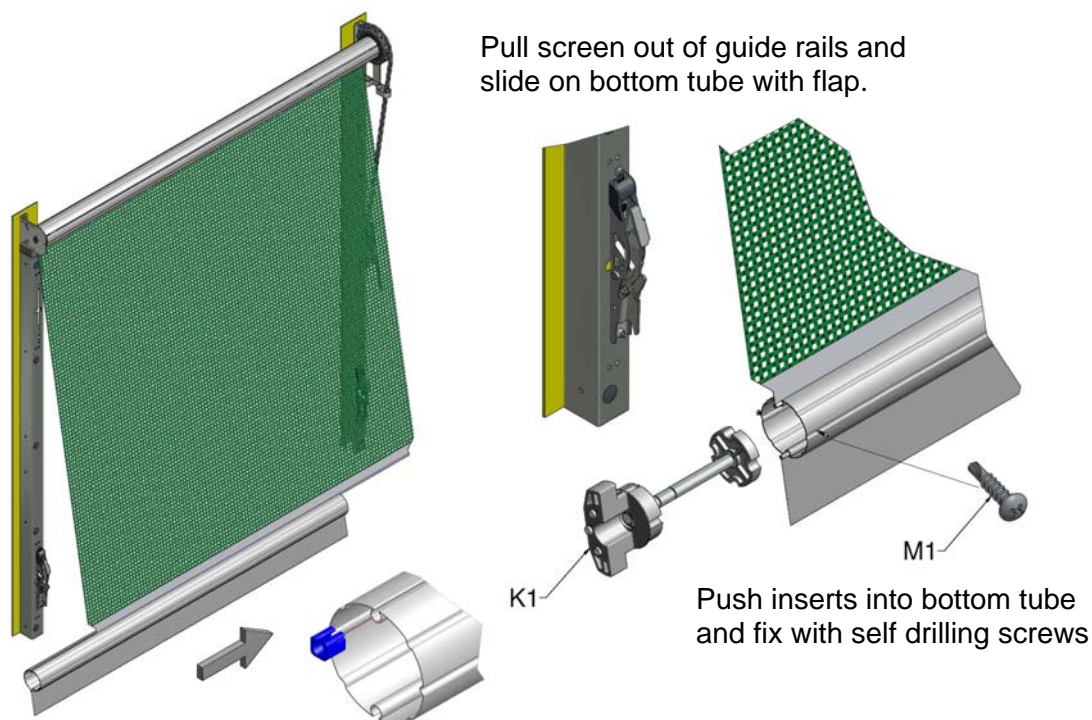
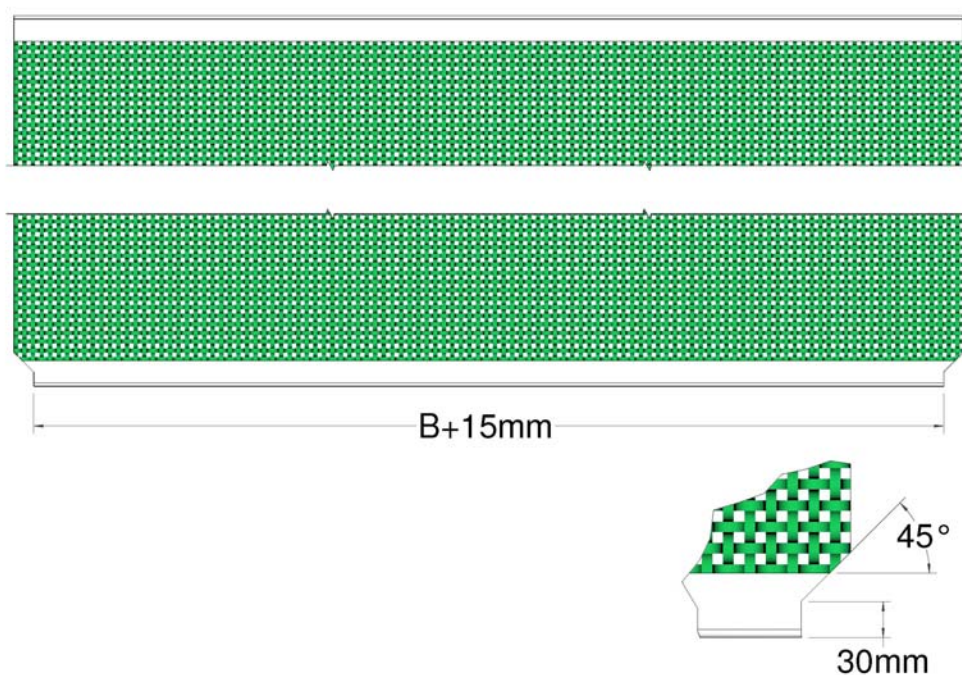

Figure 14a, Attaching Bottom Tube
Figure 14b, Trimming Sheet
13. Untie the top tube assembly and lower the door. Pull the fabric outside the guide rails and slide on the bottom tube, Figure 14a, centralise and trim excess fabric as shown in Figure 14b. Push the inserts (K1) into the tube and fix using the M4x19mm self-drilling screws supplied (M1).